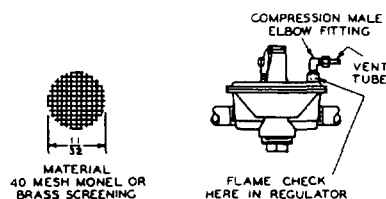

FIG. 9—Flame Check
3. Connect vent tube from pilot burner bracket to gas pressure regulator. Be sure stainless steel tip is screwed in securely and that flame check is in place in vent tube connection on regulator (See Fig. 9).